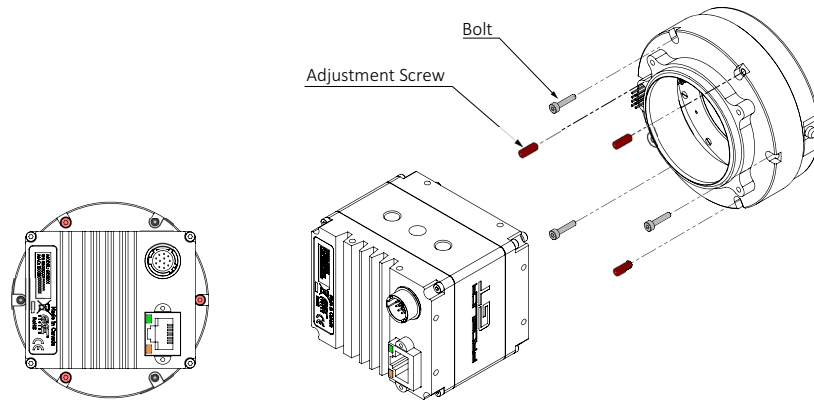

Figure 71: Back view (left) and exploded view (right) of Prosilica GT1930L camera assembly showing the adjustment screws and bolts in the EF-Mount
1. Using a compatible lens, set the lens to infinity and image on a target (10 to 15 m). Target should highlight focus levels at center image and at the corners of the image, as shown in figure 71. A lens with a long focal length, or adjustable zoom lens, will allow more precision for this operation and reduce the overall size of your target.
- Use a 1.5 mm hex ball head driver to loosen the bolts. Adjust the three tilt adjustment screws, as indicated in figure 71, until all targets are in focus.